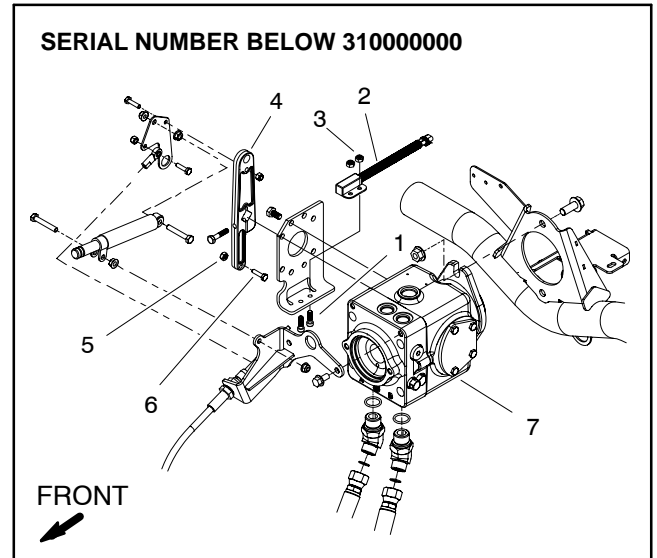

Figure 31
The traction neutral switch is a normally open proximity switch that closes when the traction pedal is in the neutral position. The switch mounts to a bracket on the traction pump. On machines with serial numbers below 310000000 (Fig. 31), the sensing element for the traction neutral switch is a cap screw on the pump control arm. On machines with serial numbers above 310000000 (Fig. 32), the sensing element for the traction neutral switch is the traction lever bracket that is secured to the pump control arm.
3. On machines with serial numbers below 310000000 (Fig. 31), test neutral switch as follows: